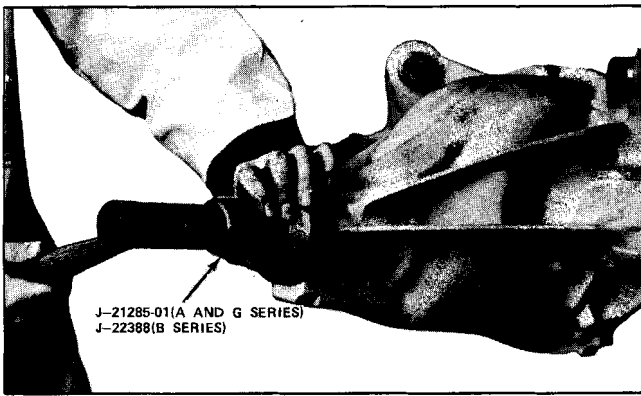

Fig. 4A-10 Installing Pinion Oil Seal
6. Count the number of exposed threads from top of pinion stem to lock nut. Remove lock nut with a heavy duty socket, while holding companion flange with J 8614-10 (Fig. 4A-8).
7. Remove companion flange, using puller J 8614-2 and 3 (Fig. 4A-9).
1. Lubricate lip of new seal with clean gear lube. Coat outer diameter of seal case with suitable sealer. Install seal by tapping into place, using J 21285-01 (Fig. 4A-10).